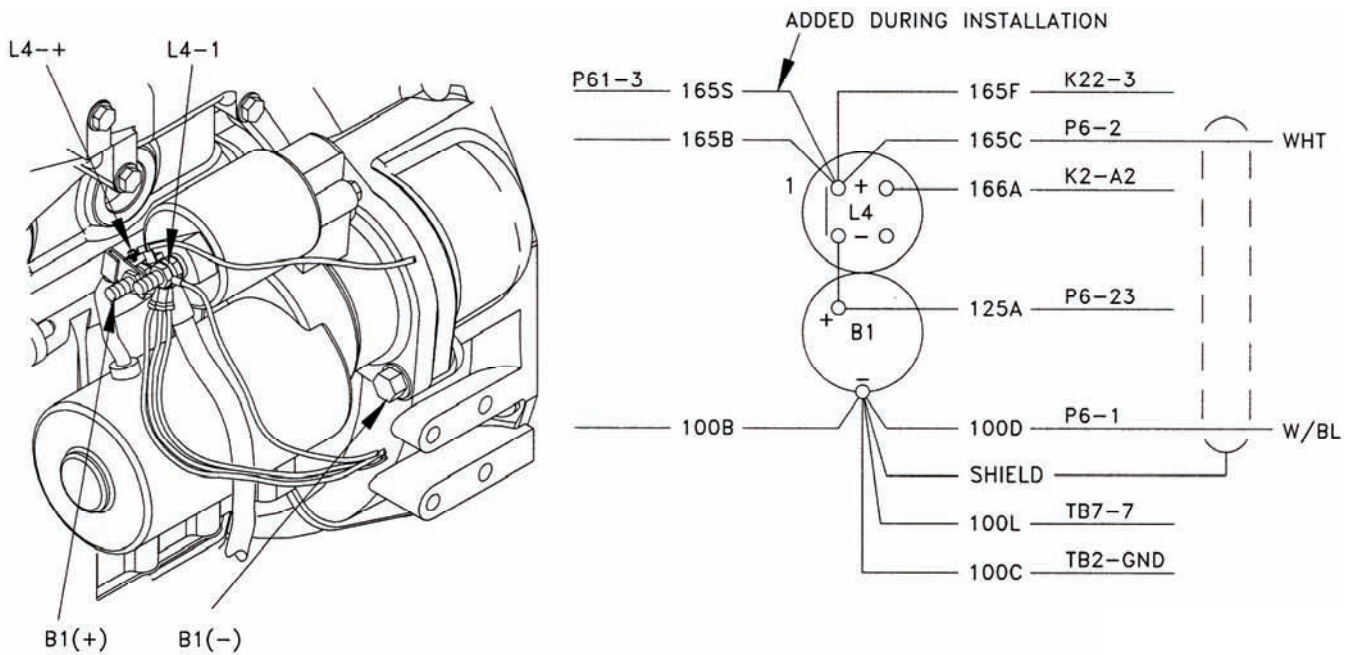

Figure 5-36. Starter and Starter Solenoid Wire Harness.
- n. Connect wire 166A16 to + terminal of starter solenoid L4 (Figure 5-36) (small electrical terminal on rear of starter solenoid).
- ak. Locate wire 165S16 (in P61) and route loose end to starter solenoid L4. Connect wire 165S16 to terminal 1 of starter solenoid L4 (Figure 5-36).
- f. Connect wire 100B to - terminal of starter B1 (Figure 5-36). Tighten bolt.